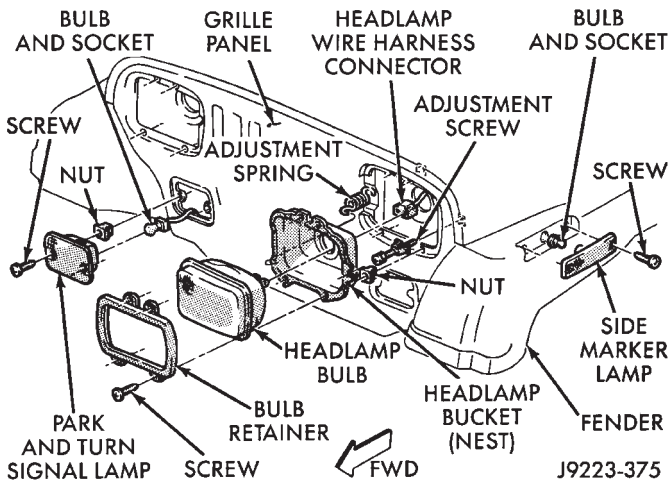

Fig. 2 Front Lamps
(4) Connect the wire harness connectors and position the headlamp buckets and headlamps in the grille panel (Fig. 2).
(7) Connect the wire harness connectors and install the parking lamps (Fig. 2).
(8) Install the parking lamp retaining screws. Tighten the screws to 2 N·m (18 in-lbs) torque.
(9) Close the hood.
(10) Install the front crossmember cover.